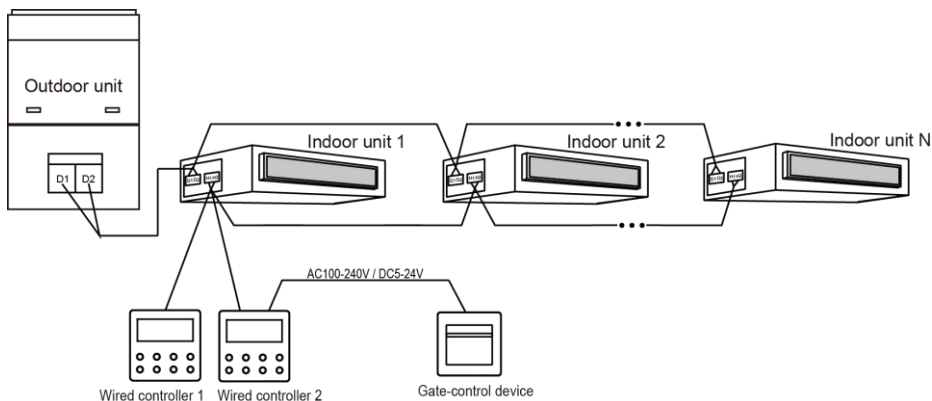

Figure 5.13 Connection fashion 2 of Wired Controller and Gate Control
- ① Wired controller 2 in figure 5.13 can be set as master controller or slave controller;
- ② Wired controller 1 in figure 5.13 can be model or other models.
- (4) Power input of gate control card insertion/removal device supported by wired controller XK79. AC 100-240V~50/60Hz, DC 5~24V. In practice, connect the gate control output power cord with the corresponding power supply interface of wired controller according to the type of output power of gate-control device (Please refer to 5.1.4 Installation for wire connection of specific interface). Wired controller will judge the placing and absence of